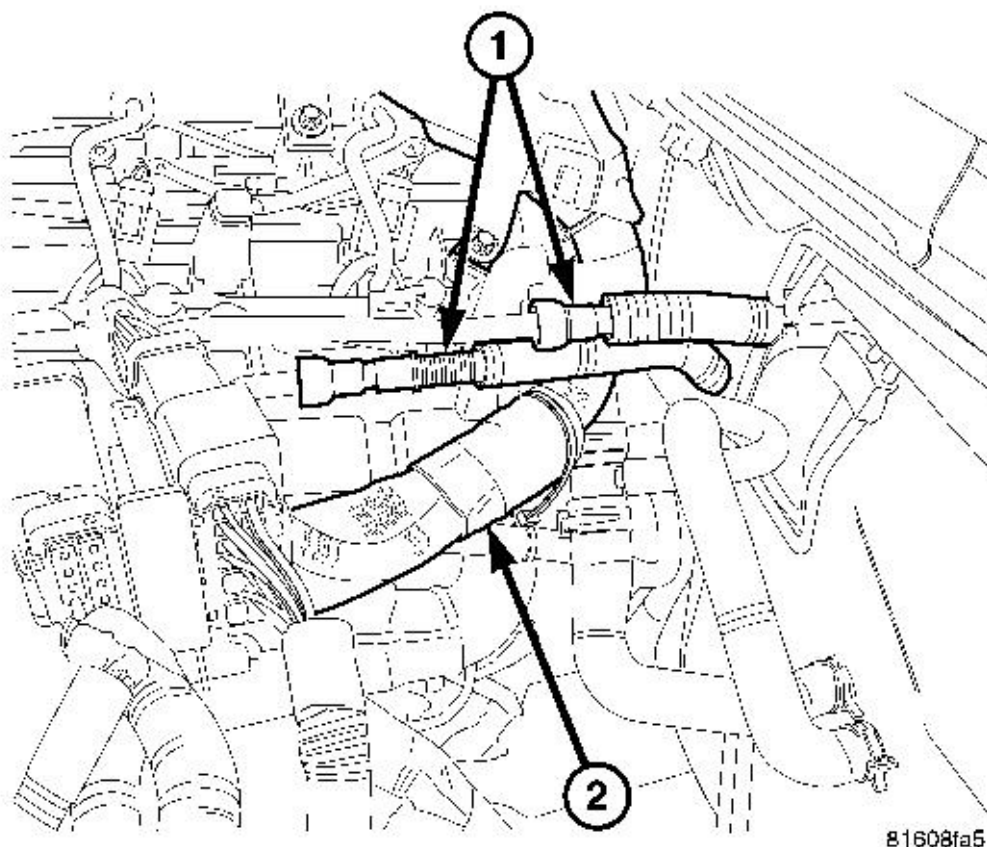

Fig. 165: Fuel Tank Supply & Rear Engine Wiring Harness
4. Disconnect the fuel tank supply (1) and return lines (1) from the fuel line bundle. See **Fig. 165**.
5. Separate the rear engine wiring harness (2) and hold downs at cylinder head cover.